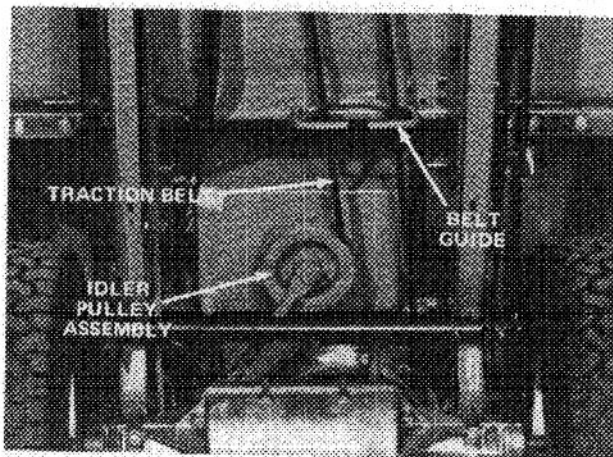

Figure 38
3. Reach under the rider frame just forward of the rear wheels, grasp the idler pulley assembly, (Fig. 38) pull on it to relieve tension on the belt and remove the belt from the pulley. Then, remove the belt from the belt guide (Fig. 38).